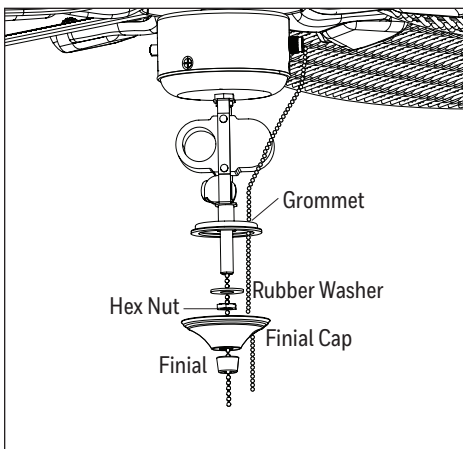

Figure 5.7
- Remove the finial, finial cap, hex nut, and washer from the threaded rod on the light kit. Then feed the pull chain coming from the switch housing down through the preassembled grommet in the lower part of the light kit (Figure 5.7).